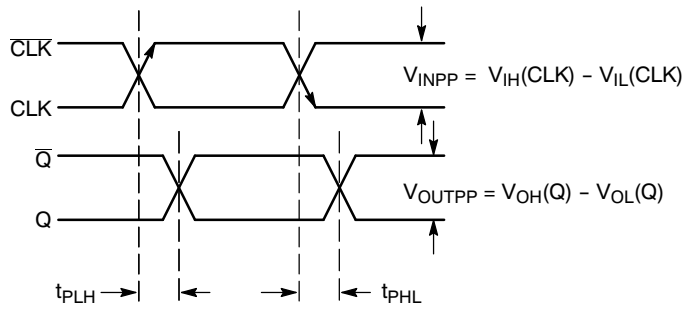

Figure 5. AC Reference Measurement
23. See Figure 5. $t_{\text{SKEW}} = |t_{\text{PLH}} - t_{\text{PHL}}|$ for a nominal 50% Differential Clock Input Waveform.
28. See Figure 5. $t_{SKEW} = |t_{PLH} - t_{PHL}|$ for a nominal 50% Differential Clock Input Waveform.